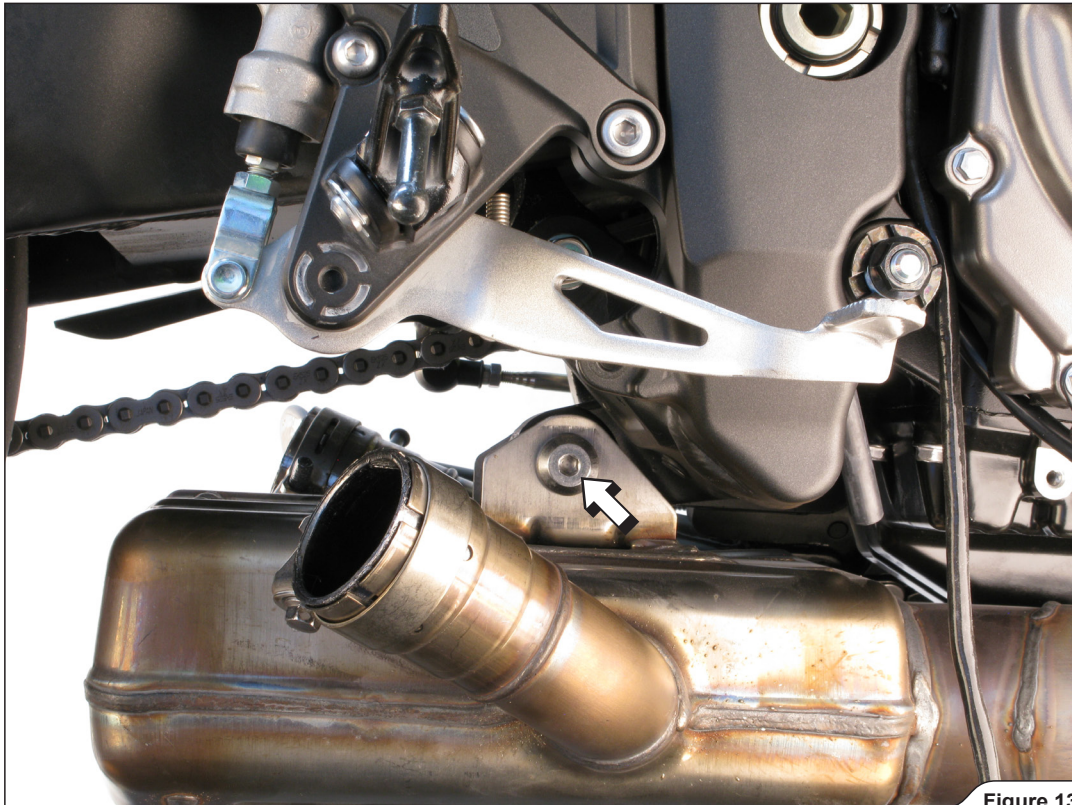

Figure 13
12. Unscrew the marked bolt and carefully remove the headers off the motorcycle (**Figure 13**).